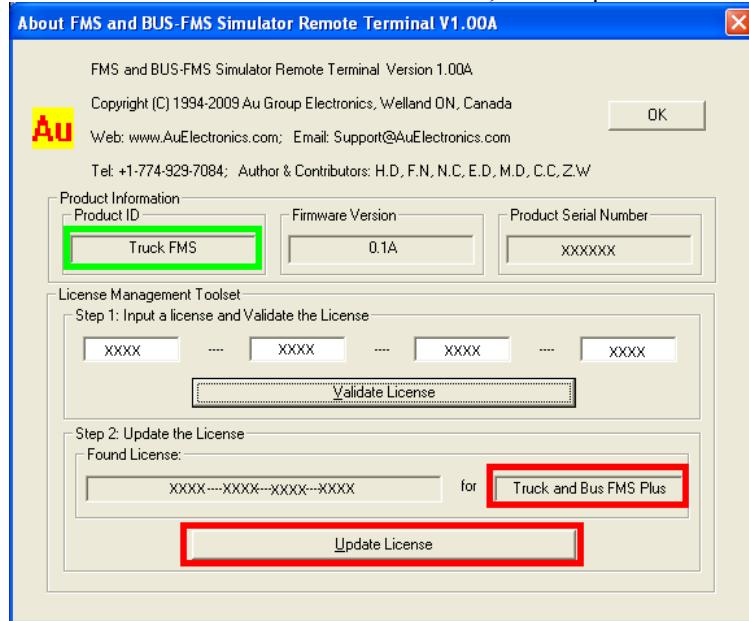

Figure B-5
6. After a validate license is entered, Updated license Information will display, as demonstrated here in Figure B-5, Truck FMS will be upgraded to Truck and Bus FMS Simulator Plus Edition, click “Update License” button.